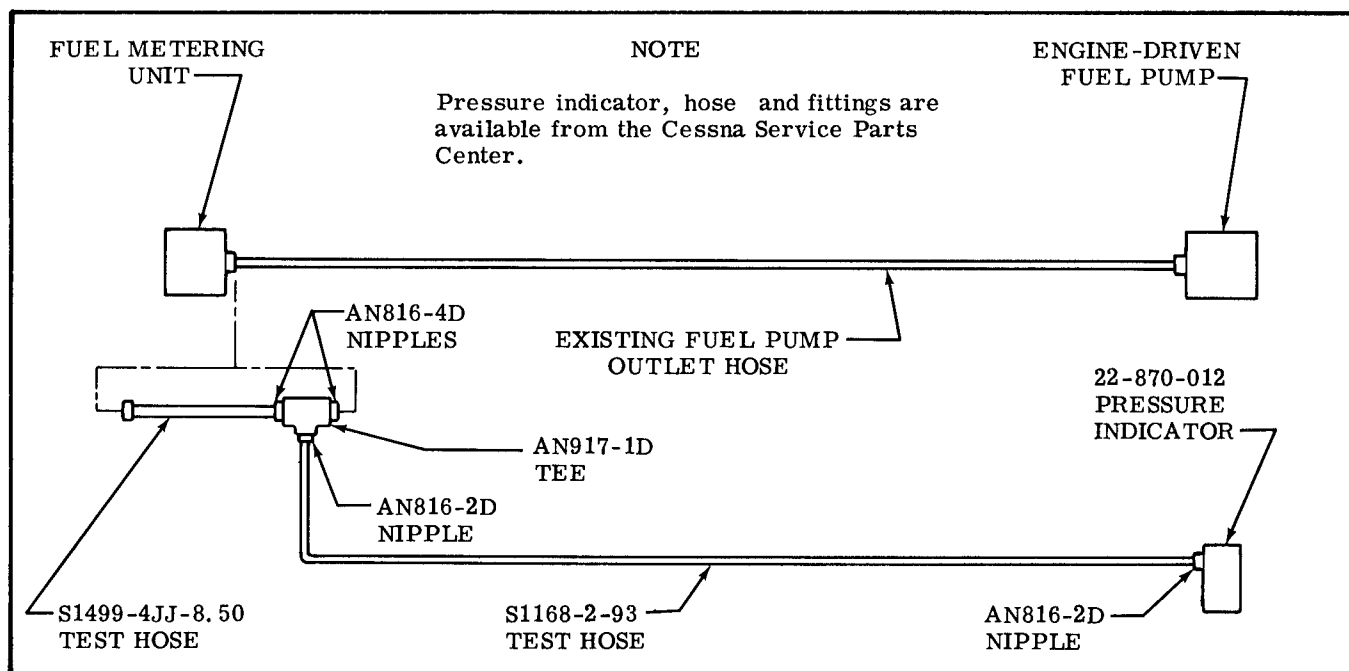

Figure 11A-4. Fuel Injection Pump Adjustment Test Harness
- b. Disconnect the engine-driven fuel pump outlet fitting or the fuel metering unit inlet fitting and "tee" the test gage into the fuel injection system as illustrated in figure 11A-4.
- e. Adjust engine idle speed to  $600 \pm 25$  rpm and check test gage for 9-11 PSI. Refer to figure 11A-3 for idle mixture adjustment.